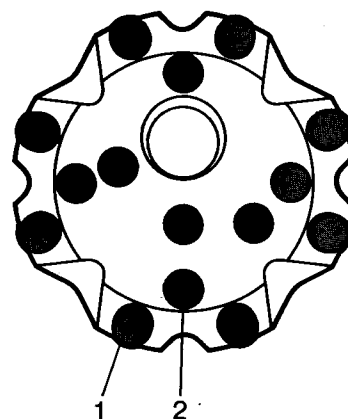

Fig. 51. Button bits carry both peripheral buttons (1) and centre buttons (2)
13.2. Redressing button bits (Figs. 51–57)
The buttons are of two types, **peripheral buttons**, which are placed on the periphery of the bit and maintain the correct diameter, and **centre buttons** (Fig. 51). The buttons are placed so that the impact energy is equally distributed over all the buttons.